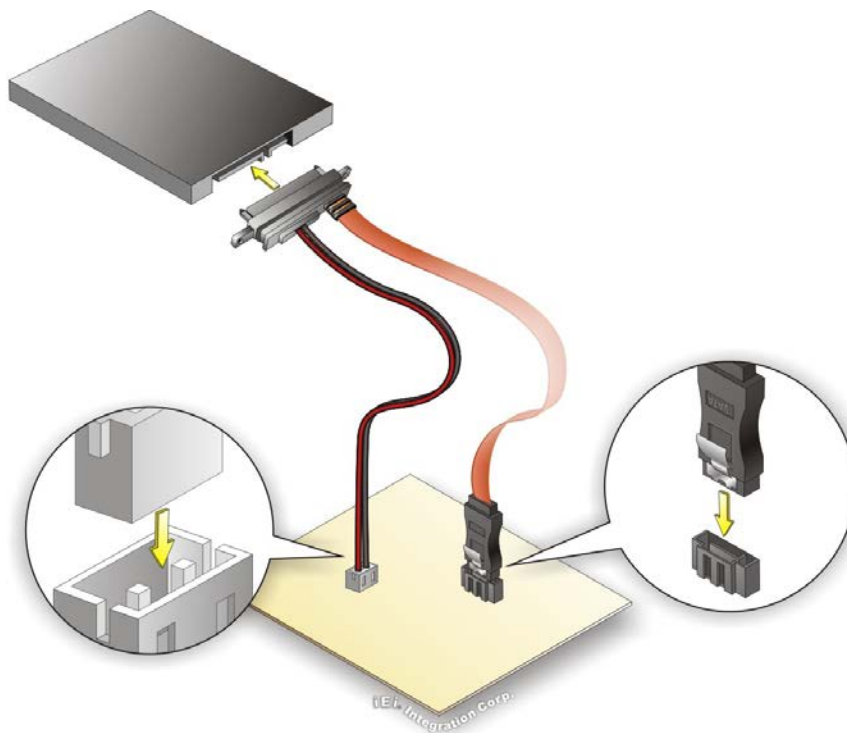

Figure 4-16: SATA Drive Cable Connection
Step 2: **Insert the cable connector.** Insert the cable connector into the on-board SATA drive connector and the SATA power connector. See **Figure 4-16**.
Step 3: **Connect the cable to the SATA disk.** Connect the connector on the other end of the cable to the connector at the back of the SATA drive. See **Figure 4-16**.